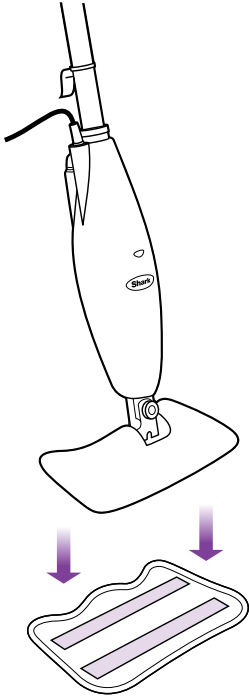

fig. 1
- 1 Place the microfibre cleaning pad on the floor with the quick fastener strips facing up. Place the **Steam Lite** Steam Mop on the top of the pad to attach. (fig. 1)